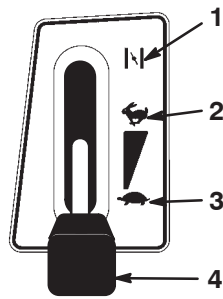

Figure 8
4. Shift the throttle lever to Choke (Fig. 8).
- After the engine starts, slowly shift the throttle lever to Fast (Fig. 8). If the engine stalls or hesitates, shift the throttle lever back to Choke for a few seconds and then shift the throttle lever to Fast. Repeat this step as required.
- Shift the throttle lever to Fast (Fig. 8).